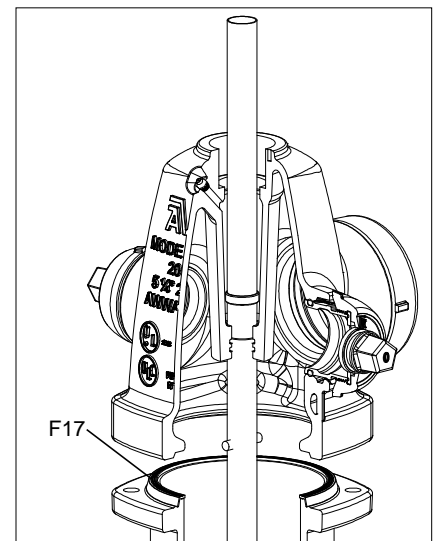

Fig. 7F
2. Verify that the Barrel Gasket (F17), is in place on top of the Upper Barrel (F35) . (See Fig. 7F)